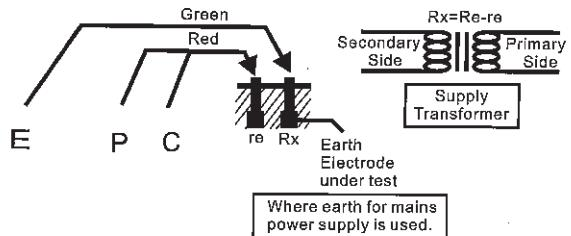

Fig.2
- (1) This method is recommended where an earth resistance higher than 10Ω is measured or where it is not possible to drive auxiliary earth spikes. An approximate value of earth resistance can be obtained by the two wire system where is shown in Fig. 2.
- (2) Rotary to function switch to "EARTH VOLTAGE" position and press to test. Make certain that earth voltage is less than 10V.
- (3) First rotary the function switch to "200Ω" position and press to test, read earth resistance. If the display shows "1" (MSD), switch to "2KΩ" position and read earth resistance.
- (4) The reading obtained (R_x) is an approximate earth resistance value. There is no need for external shorting as P and C terminals are shorted by using the test leads specified for the Simplified measurement.